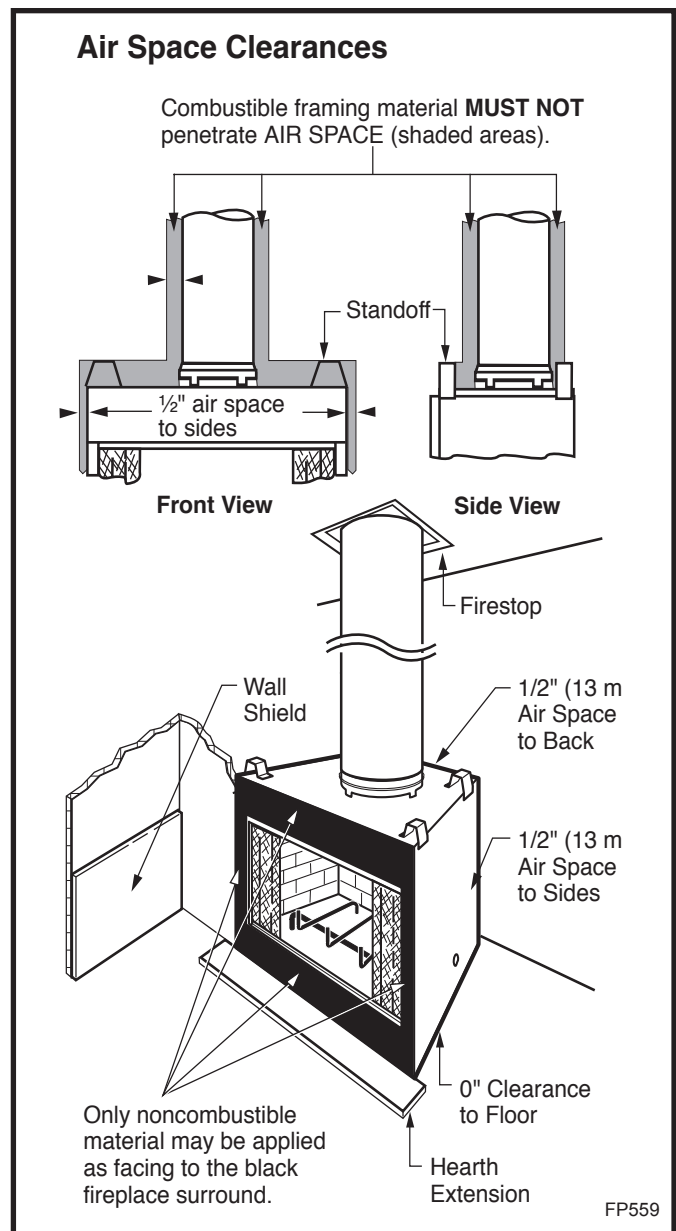
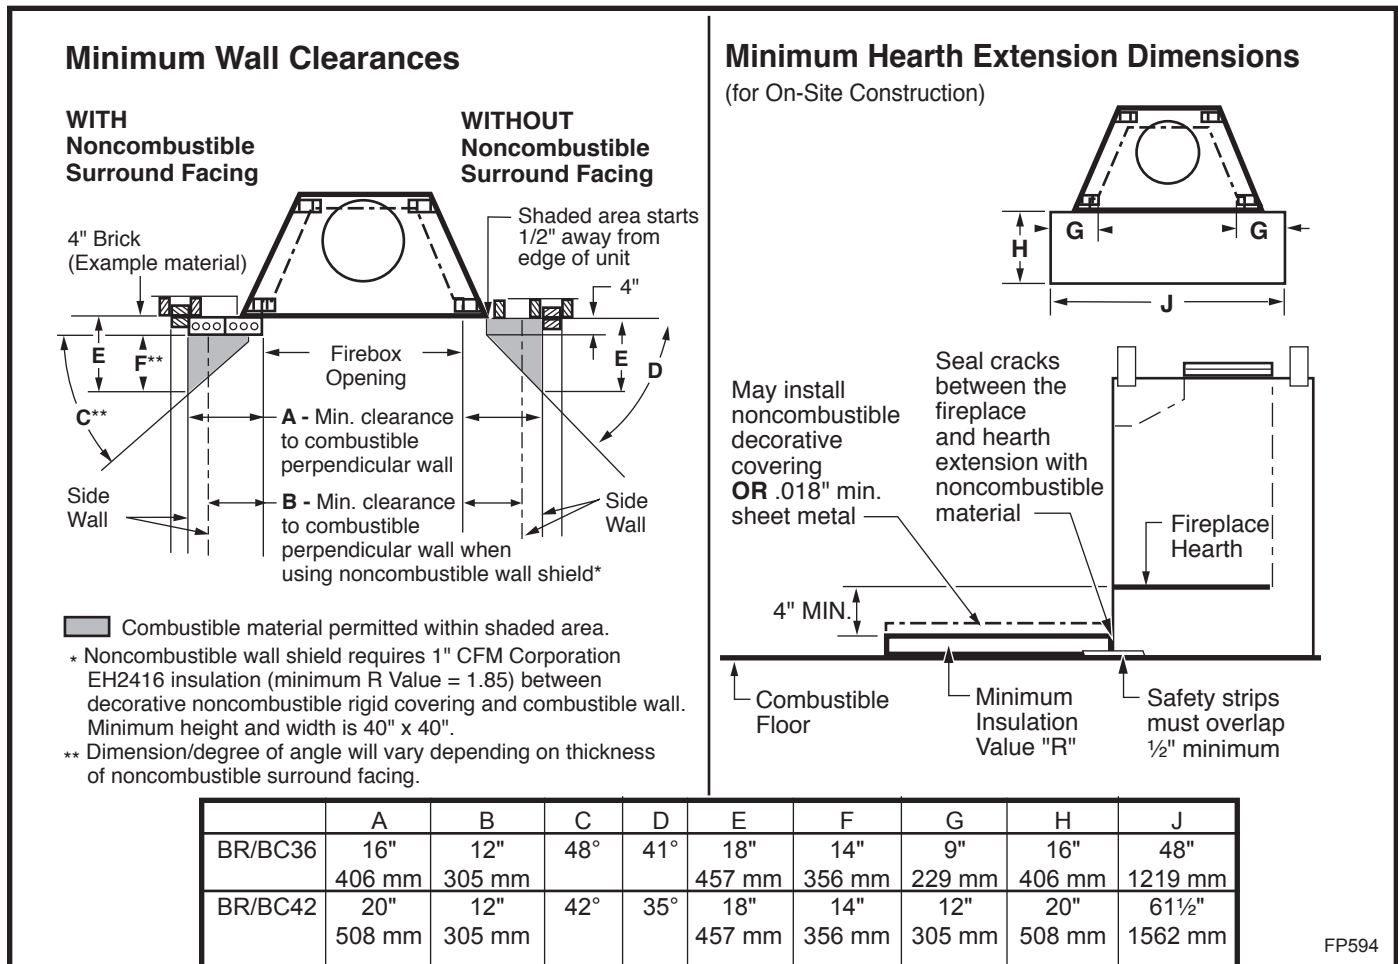

Fig. 20 Minimum clearances to combustibles.
Fig. 23 Combustible side wall protection and hearth extension dimensions.
CAUTION: All joints between the finished wall and the fireplace surround (top/sides) must be sealed with noncombustible material to prevent cold air leakage into the room. Only noncombustible material may be applied to the facing of the fireplace surround. (Black painted area) (Fig. 20)
Often a decorative surround or vertical portion of the mantel is desired. If this is constructed of any combustible material it must be within the safe zone indicated in Figure 23.
Adjacent combustible side walls that are within minimum dimensions shown in Figure 23 of the fireplace opening must be protected with CFM Corporation Wall Shield Model SP40 or a specifically built wall shield described in Figure 20.
The special wall shield design described in Figure 20 is an alternate method of adding protection to side walls and can be used in place of the SP40 with the same wall clearances specified for the SP40. Rt must =1.85 minimum.
A hearth extension is required to protect a combustible floor in front of the fireplace. Refer to Figure 23 for minimum dimensions and mounting detail.
The hearth extension described in Figure 23 must be a durable noncombustible material with a minimum (total) Rt value of 1.09; see Figure 24 for examples. The overall height (above a combustible floor), depth and width must be as indicated, with the extension centered to the fireplace opening.
The top of insulation must be covered with a noncombustible decorative covering **or** a piece of .018" minimum sheet metal, to protect hearth extension material. (Fig. 23)
Secure the hearth extension to the floor to prevent shifting, using trim molding or other similar means at three (3) outer edges. Seal crack between the fireplace hearth and hearth extension with a noncombustible material. (Figs. 23 and 25)
WARNING: HEARTH EXTENSION MUST BE INSTALLED IN ACCORDANCE WITH FIGURE 23 AND MUST NOT COVER THE BOTTOM FRONT OPENING OF THE CIRCULATING MODEL.